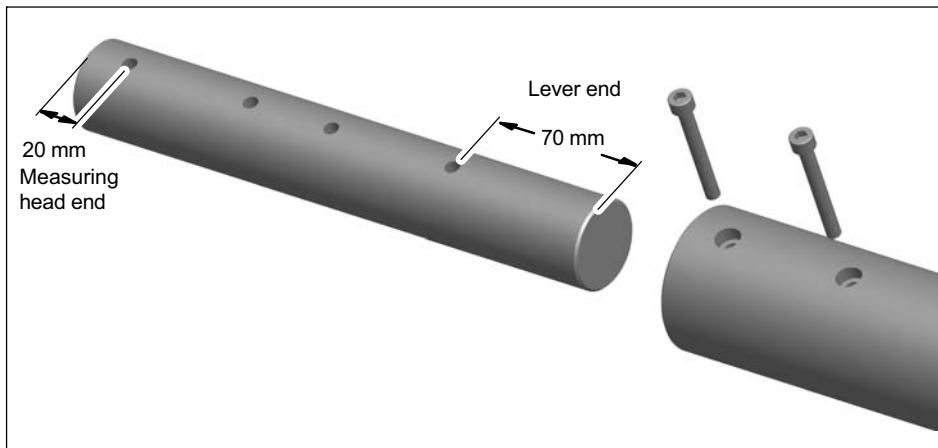

Fig. 5.7 Detailed view of end orientation on the connection bolt
- First attach the connection bolt of the lever with two of the supplied hexagon-socket screws (a./f. 5) in the measuring head. Make sure you get the right end, as shown in Fig. 5.7.